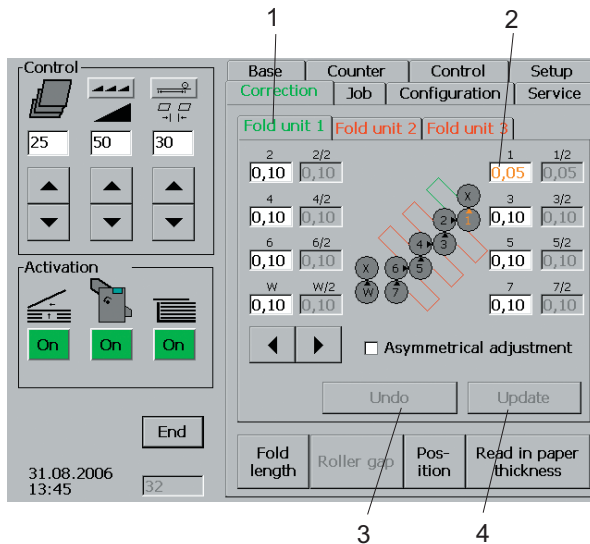

Fig. 39 Correction of roller gap
1. Select the fold unit by touching the appropriate tab (Fig. 39/1) (script colour changes).
3. Touch the input window (Fig. 39/2). A numerical keyboard pops up.
You can cancel incorrect entries by touching the *Undo* key (Fig. 39/3).
7. When entering the corrections is complete, touch the *Update* key (Fig. 39/4). This command activates the automatic adjustment of all corrections that have been entered.